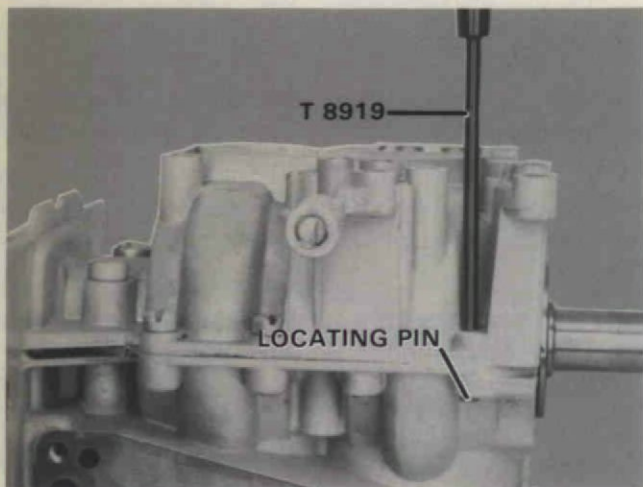

Figure 18. Removing Locating Pins.
- B. Drive out two (2) locating pins. Special Tool No. T 8919. Figure 18.